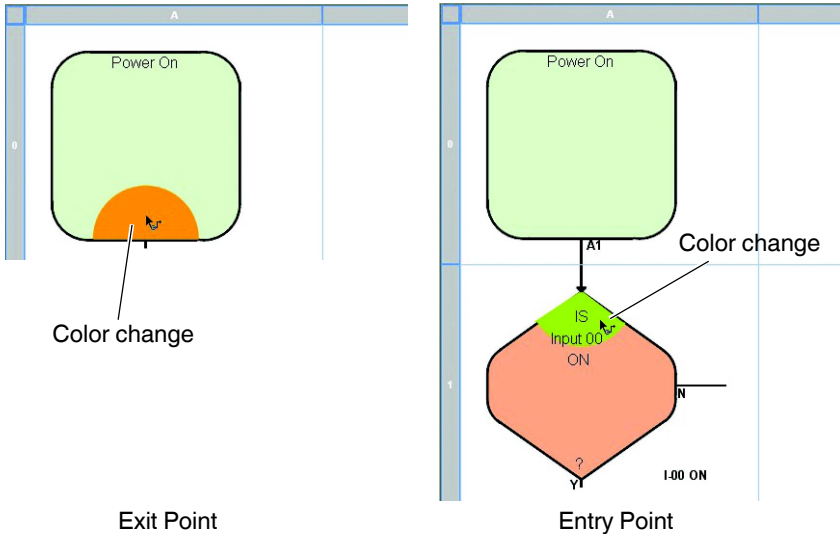

Figure 1-11 Exit and entry connection points
1. Move the cursor over the connection point of cell A0 and click once. To indicate proper location, a color change occurs when the cursor is in the correct location (Figure 1-11).
2. Move the cursor over the connection point of cell A1 and click once. The color change indicates correct location (Figure 1-11). Cells A0 and A1 are now connected.